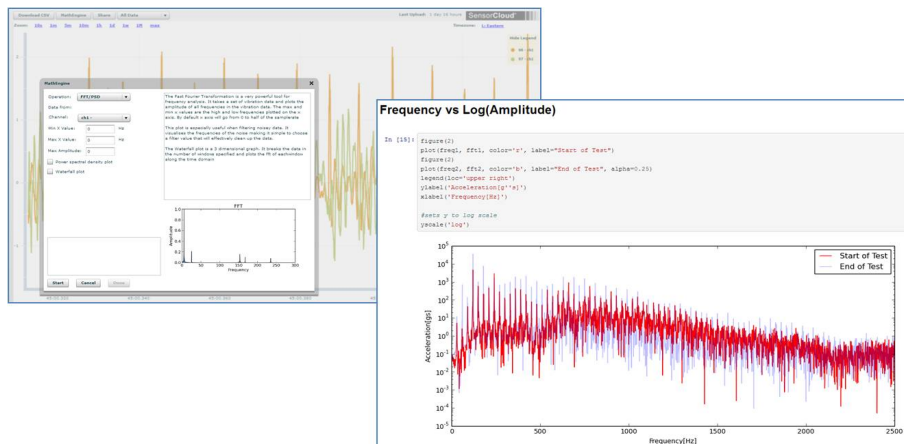

Figure 19 - MathEngine® View
- f. **MathEngine®** - is used to analyze sensor data. Functions include the ability to filter out frequencies, smooth out noisy data, perform math operations such as Fast Fourier Transforms (FFTs), and much more. MathEngine® interfaces with the SensorCloud™ graphing view for faster processing (Figure 19 - MathEngine® View). Refer to the MathEngine® website for more information